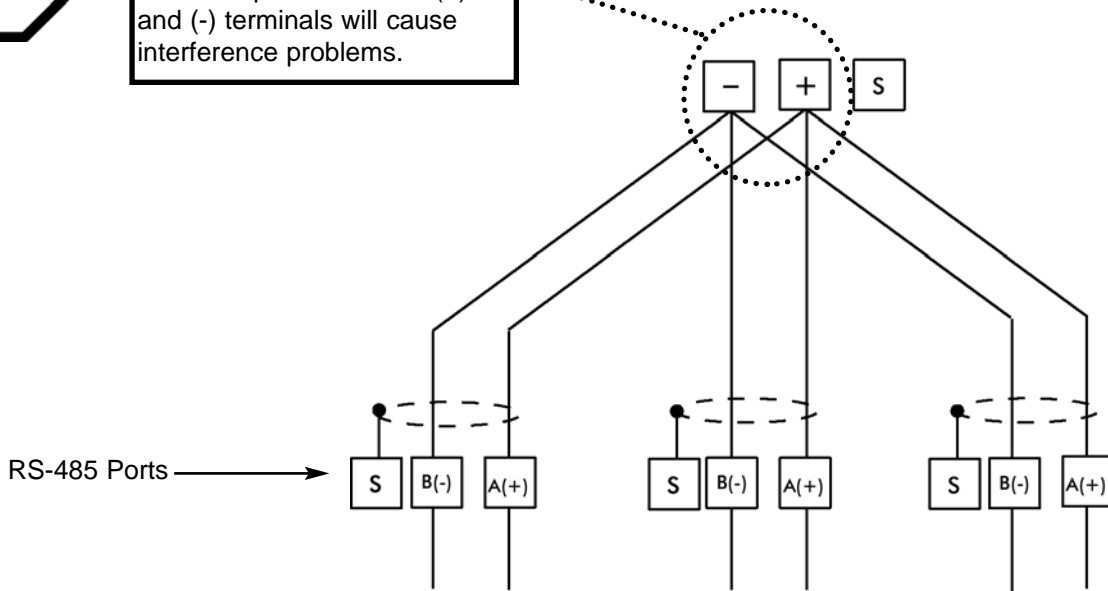

Figure 5.7: Incorrect "T" and "Star" Topologies
- Avoid both “star” and “tee” connections (see Figure 5.7). No more than two cables should be connected at any one point on an RS-485 network, whether the connections are for devices, converters or terminal strips.